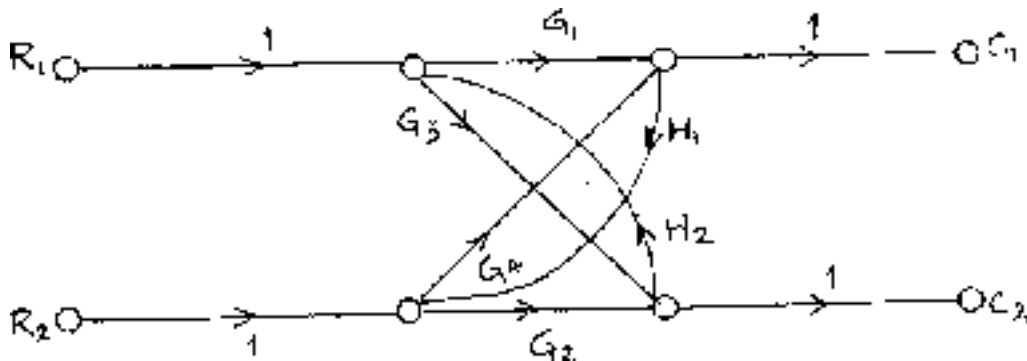

Fig. 2
b) Using Mason's gain formula find gain of the following system shown in fig. 2 8